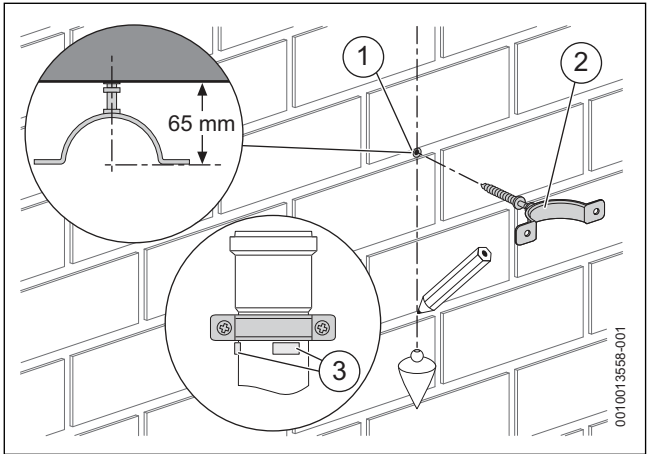

Fig. 42 Support clamp fitting
Support clamp (→ figure 42)
- Screw in the support clamp into the wall plug to the distance shown in figure 42.